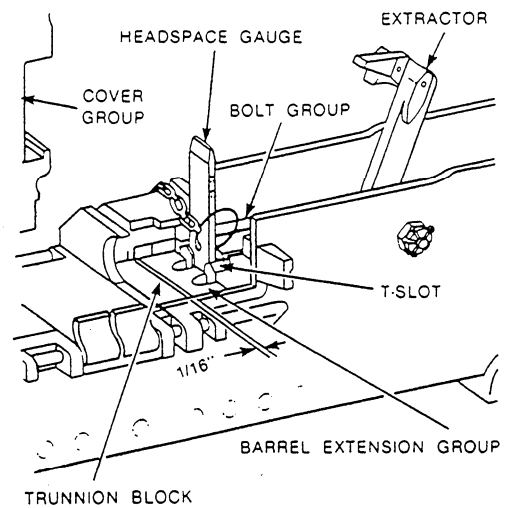

Figure 13-50.—Checking the headspace with the GO end of the headspace gauge.
4. Retract the bolt slightly, not exceeding 1/16 inch (fig. 13-50). Recheck the headspace adjustment as before.